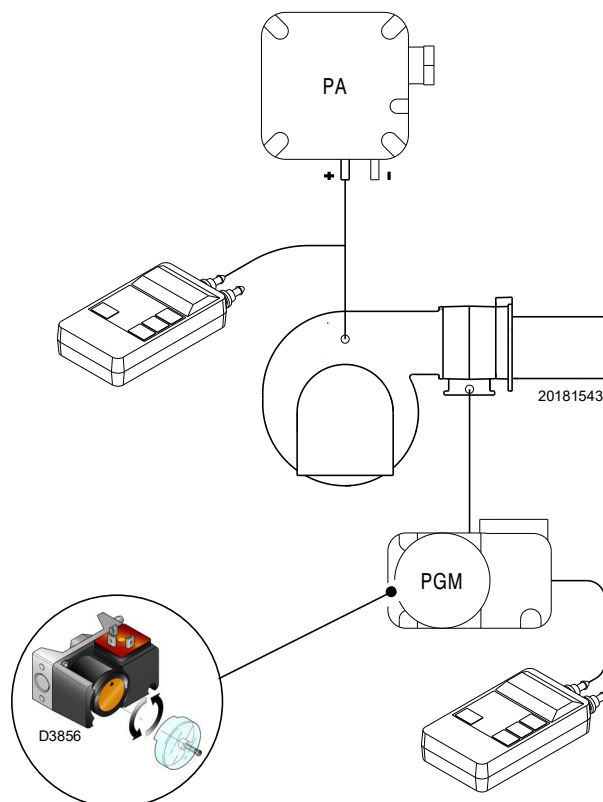

Fig. 32
- Adjust the maximum gas pressure switch (Fig. 32 at page 35) to the end of the scale.
Adjust the maximum gas pressure switch (Fig. 32) after making all other burner adjustments with the maximum gas pressure switch set to the end of the scale.